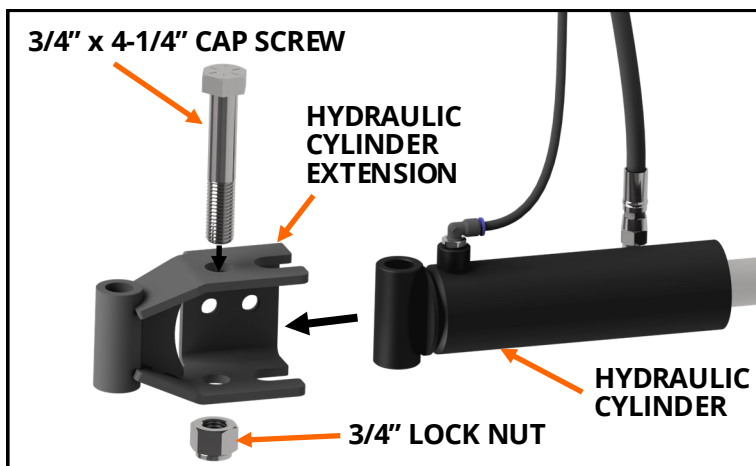

FIGURE D1: View of hydraulic cylinder.
1. **Install hydraulic cylinder extension.** If installing kit# WDHL4510 skip to Step 2. If installing kit# WDHL4511 bolt the hydraulic cylinder extension to cross tube of the hydraulic cylinder using a 3/4" x 4-1/4" cap screw and 3/4" lock nut, **see Figure D1**. Torque the nut to 150 ft.-lbs.